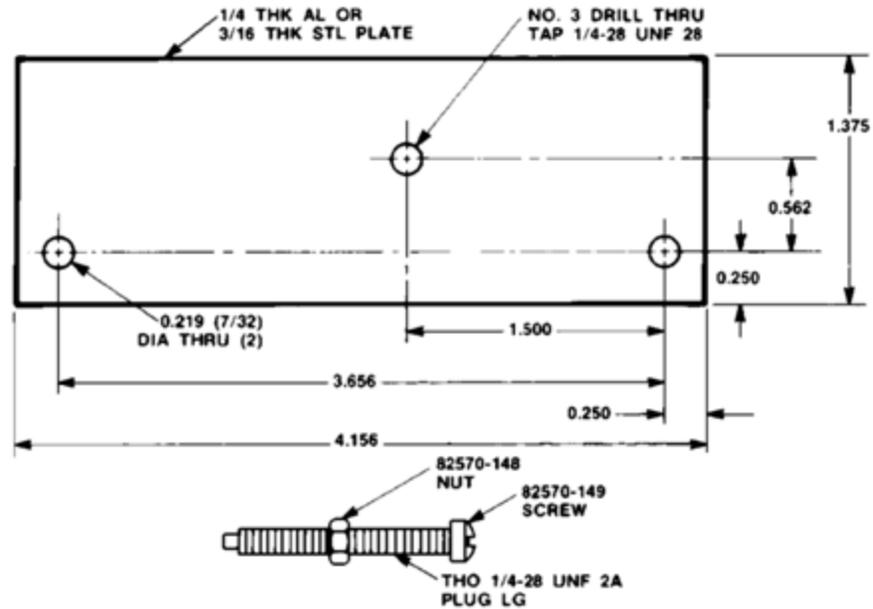
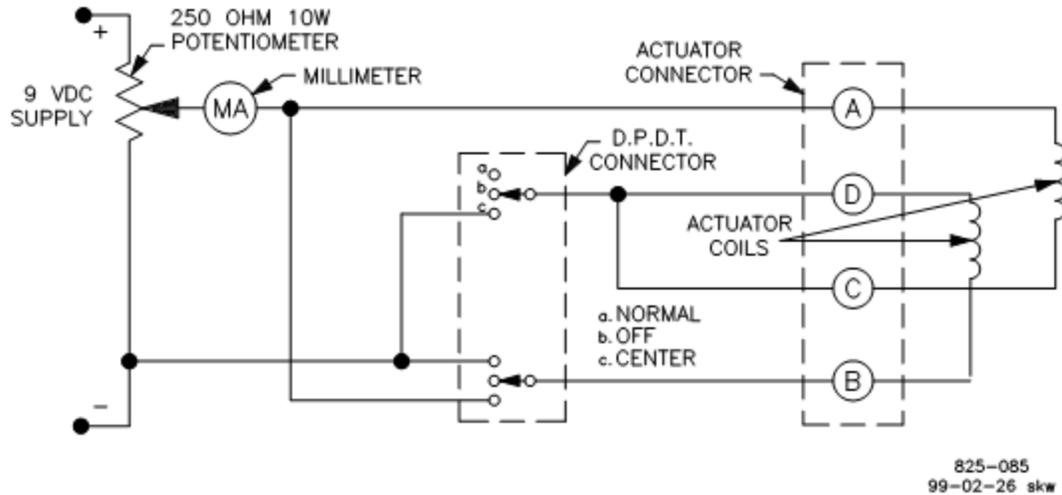
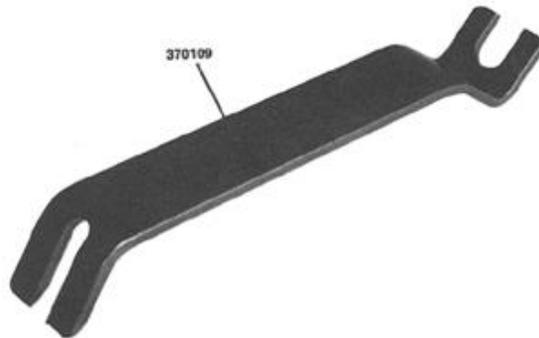

Figure 4-1. Speed Setting Adapter Plate
Figure 4-2. Actuator Test Circuit
Figure 5-1. Pilot Valve Wrench
4. Remove cover and use adapter plate shown in Figure 4-1, to hold speed adjustment screw.
5. Insert a 7/64 inch Allen wrench through the hollow center of the adjustable spring seat (90), and engage the centering screw (97). Turn the centering screw clockwise until it bottoms GENTLY. Back it off two and a half turns to establish an initial starting position.
3. Back out actuator pilot valve centering screw (97) 2 and a half turns after bottoming very carefully against spring. Use a $7/64$ inch Allen wrench. Refer to preliminary adjustments, step 5.
4. Set test circuit (Figure 4-2) to OFF and connect to transducer plug on actuator case.
7. Adjust spring seat screw (90) with a $1/8$ inch Allen wrench until terminal shaft rotates approximately to its mid-point of travel. Turn seat (90) clockwise to move terminal shaft towards maximum fuel and counterclockwise to move it towards minimum fuel.
This chapter includes information for troubleshooting, disassembly, parts check, assembly, and lubrication. In addition to the basic tools, the speed setting adapter plate (Figure 4-1), the actuator test circuit (Figure 4-2), and the pilot valve wrench (Figure 5-1) will be necessary to disassemble, repair, and assemble the unit. See Chapter 4 for a list of recommended tools.
If trouble occurs in the governing system, the general location of the fault can be readily isolated to the actuator or to the electric control unit by connecting the test circuit shown in Figure 4-2 to the actuator. Set the switch to NORMAL and operate the actuator by varying the position of the potentiometer. If operation of the actuator appears to be satisfactory, the trouble is in the electric control unit.
The source of most troubles in any hydraulic actuator or governor stems from dirty oil. Grit and other impurities can be introduced into the governor/actuator with the oil, or form when the oil begins to breakdown (oxidize) or become sludgy. The internal moving parts are continually lubricated by the oil within the unit. Valves, pistons and plungers will stick and even “freeze” in their bores, due to excessive wear caused by grit and impurities in the oil. If this is the case, erratic operation and poor response can often be corrected by flushing the unit with fuel oil or Kerosene, using the test circuit shown in Figure 4-2 to cycle it. The use of commercial solvents is not recommended as they may damage seals or gaskets.
9. Use pilot valve wrench 370109, Figure 5-1, and place it between speeder spring (74) coils on spring seat (69). Disengage spring from its seat. Hold seat with wrench and bend spring towards open end of bottom coil. At the same time turn spring to disengage coil from seat lip.
10. Remove taper pin (111) from terminal lever (29) using a 10-32 nut and two washers from the cover as a puller.
11. Remove screw (110) and retaining ring (108) from terminal shaft (107) and pull shaft from case. Remove bushings (106) only if replacement is necessary, oil seal (134) and felt washer (135) from both sides of the case.
12. Remove screws (133) that attach plug (132) to case. Do not disconnect plug from solenoid leads.
13. Remove pin (100) and disconnect restoring lever (93) from piston link (78).
14. Remove pin (96) from transducer bracket (84). Lift out transducer lever (91), spring seat (90) and spring (101).